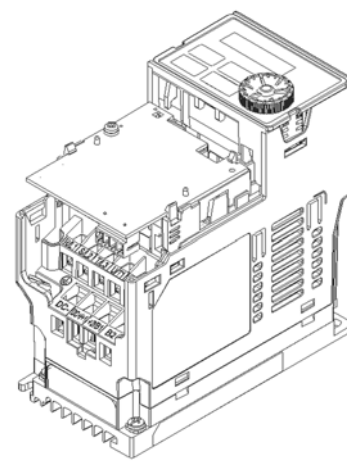

Figure 8-20
6. As shown in the Figure 8-20, assembly is completed.